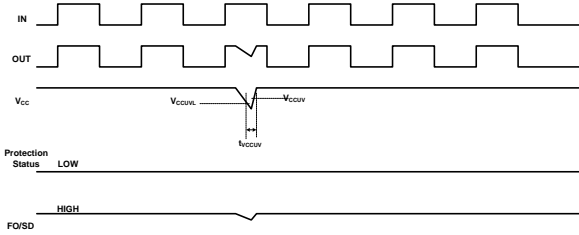

Figure 48. Timing chart of  $t_{UVLO} < t_{VCCUV}$  condition
Gate drive output and fault output (FO) does not change when an under-voltage duration ( $t_{UVLO}$ ) less than under voltage filter time ( $t_{VCCUV}$ ) as shown in Figure 48.